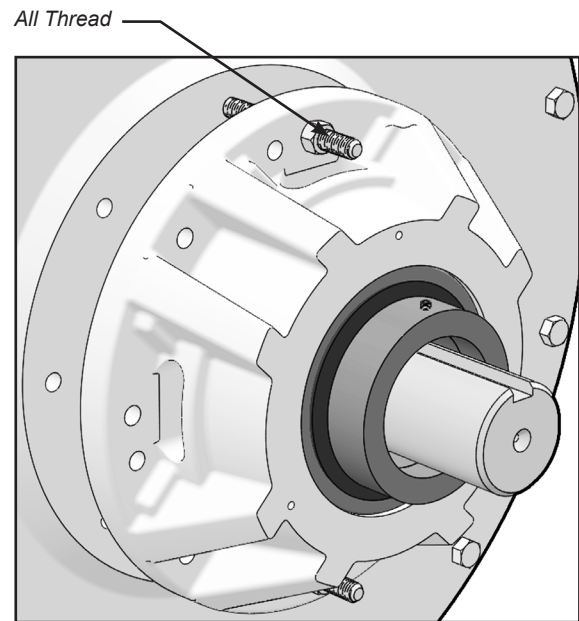

FIGURE 17
24. Install all thread rod and nut into opposing holes (Figure 17).